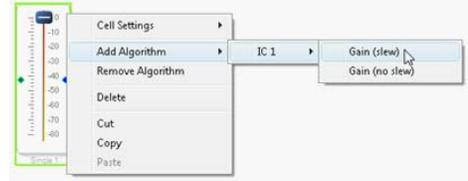

Figure 22. Adding a Channel to the Volume Control
- By default, this cell only has one input channel and one output channel, as indicated by the green input and blue output dots. To add a channel, right click in the blank white part of the cell and select **Add Algorithm > IC 1 > Gain (slew)** from the menu (see Figure 22).